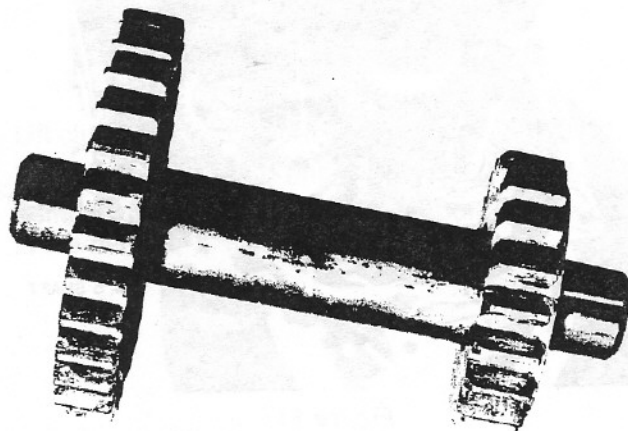

Figure 14
19. #4 shaft assembly removed. See fig 14.